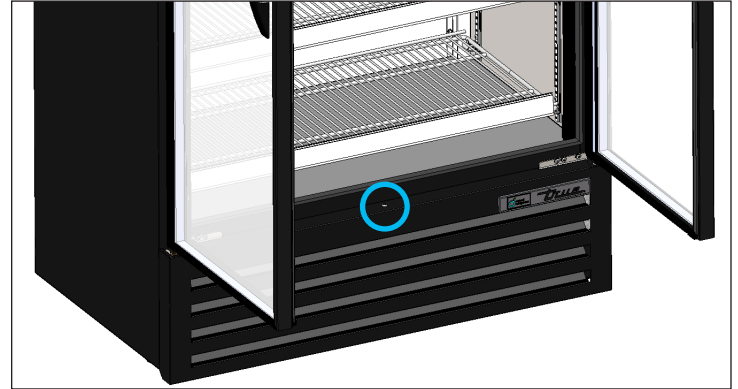

Fig. 1. Swing door louver grill screw location.
2. Remove the front louvered grill from the cabinet. See fig. 1 and 2.